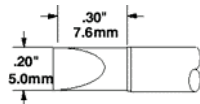

Figure 6. Diagram of a proper sized soldering tip.
6. A large-tipped soldering iron should be used to apply the amount of heat necessary for good solder reflow through the .062” thick PCB. A tip size of 0.2” x 0.3” (5 x 7.6 mm) is recommended. The soldering iron tip used for this exercise is a Metcal STTC-117 and is diagrammed in Figure 6, although exact tip type is dependent on the user’s soldering iron.